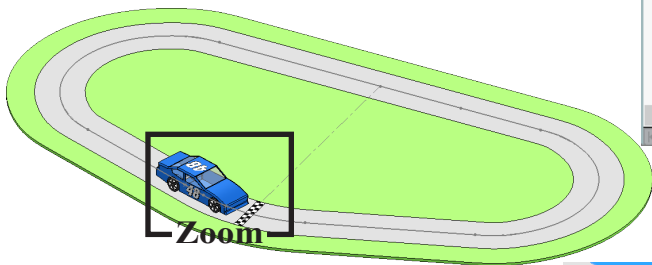

Fig. 2
Step 2. Zoom in around **Car Assembly and Start/Finish line, Fig. 2**. To zoom, place the cursor over the Car Assembly and spin the wheel on mouse back.